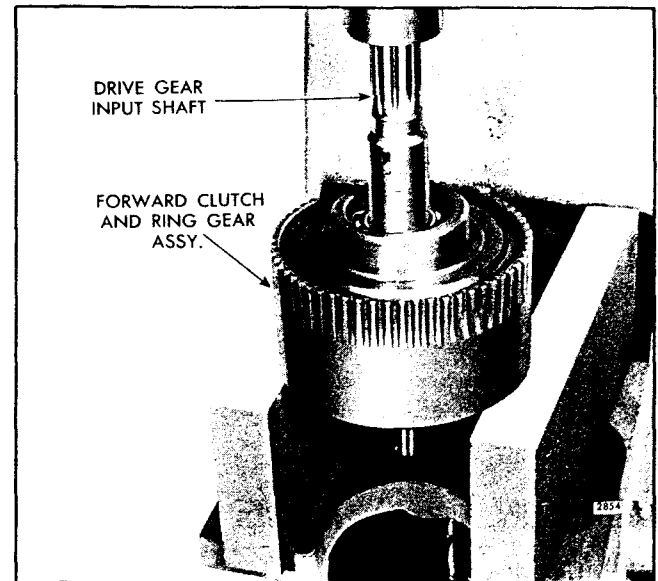

Fig. 26 - Removing Drive Gear Input Shaft from Bearing and Forward Clutch and Ring Gear Assembly
- c. Place the drive gear input shaft, forward clutch and ring gear assembly on two steel supports on the bed of an arbor press with the non-splined end of the shaft over the opening in the bed of the press as shown in Fig. 26.